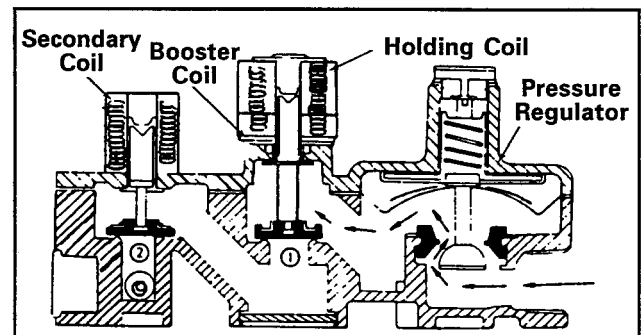

Figure 8-2
**Gas Valve** - The gas valve is actually two gas valves, one in series with the other. This is a safety feature providing added protection against gas released in the event of a failure of one of the valves to seat properly. (See Figure 8-2)